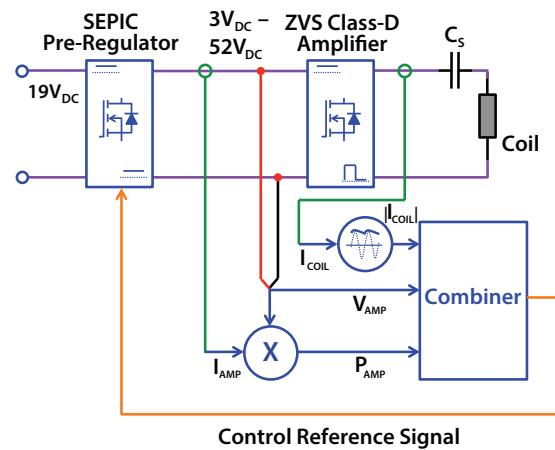
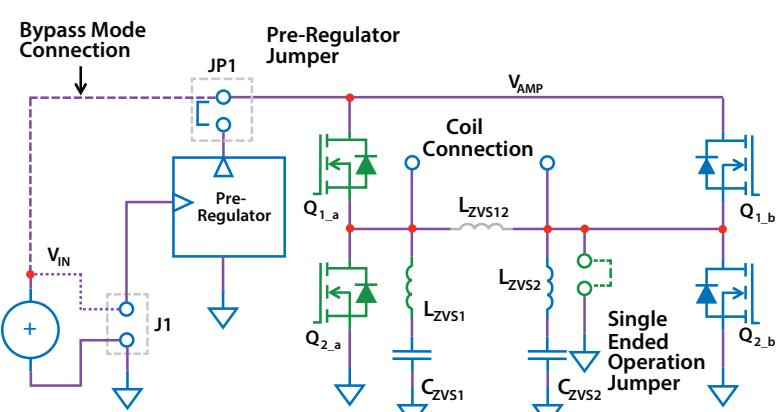

Figure 2: Block diagram of the EPC9509 wireless power amplifier
Figure 3: Diagram of EPC9509 amplifier circuit
Figure 2 shows the system block diagram of the EPC9509 ZVS class-D amplifier with pre-regulator and Figure 3 shows the details of the ZVS class-D amplifier section. The pre-regulator is used to control the ZVS class-D wireless power amplifier based on three feedback parameters 1) the magnitude of the coil current indicated by the green LED, 2) the DC power drawn by the amplifier indicated by
2. With power off, connect the main input power supply bus to J1 as shown in Figure 3. Note the polarity of the supply connector.
2. With power off, connect the main input power supply bus  $+V_{IN}$  to the bottom pin of JP1 and the ground to the ground connection of J1 as shown in Figure 3.